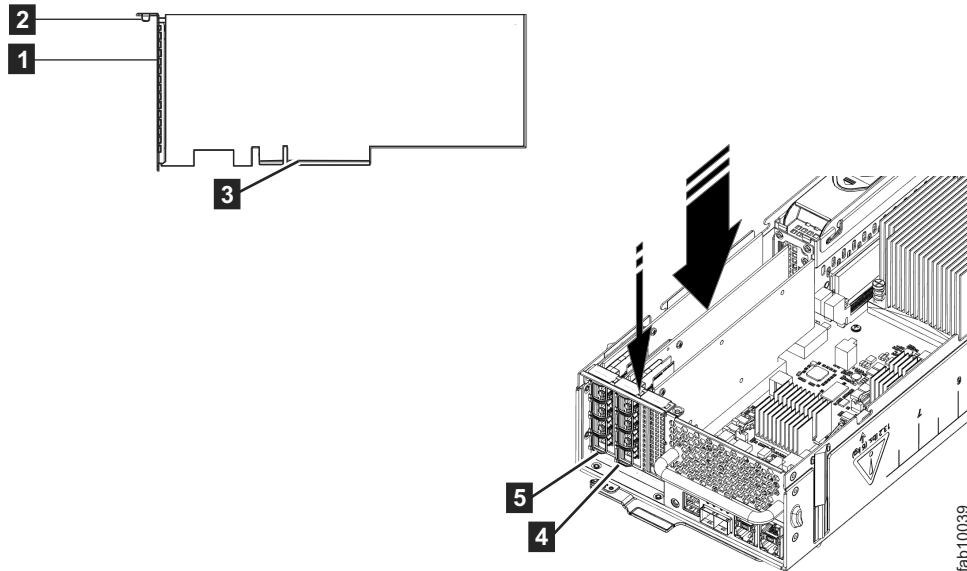

Figure 108. Installing the host interface card
6. Remove the replacement host interface card **1** from its package. Figure 108 on page 352 displays installing the host interface card.